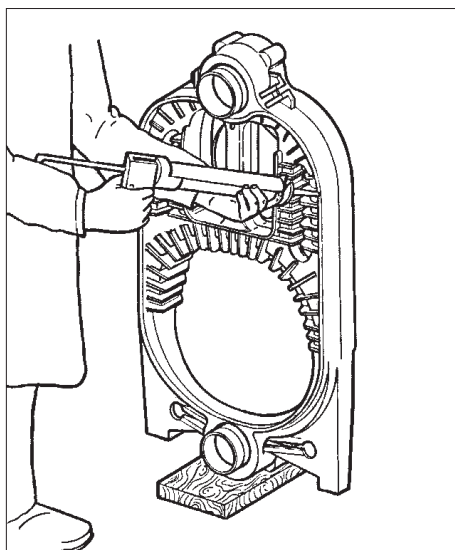

Fig. 9
4.05 (Fig. 9) Using the tube of silicone in the assembly kit, spread a small amount of this product in the retention seal housing.